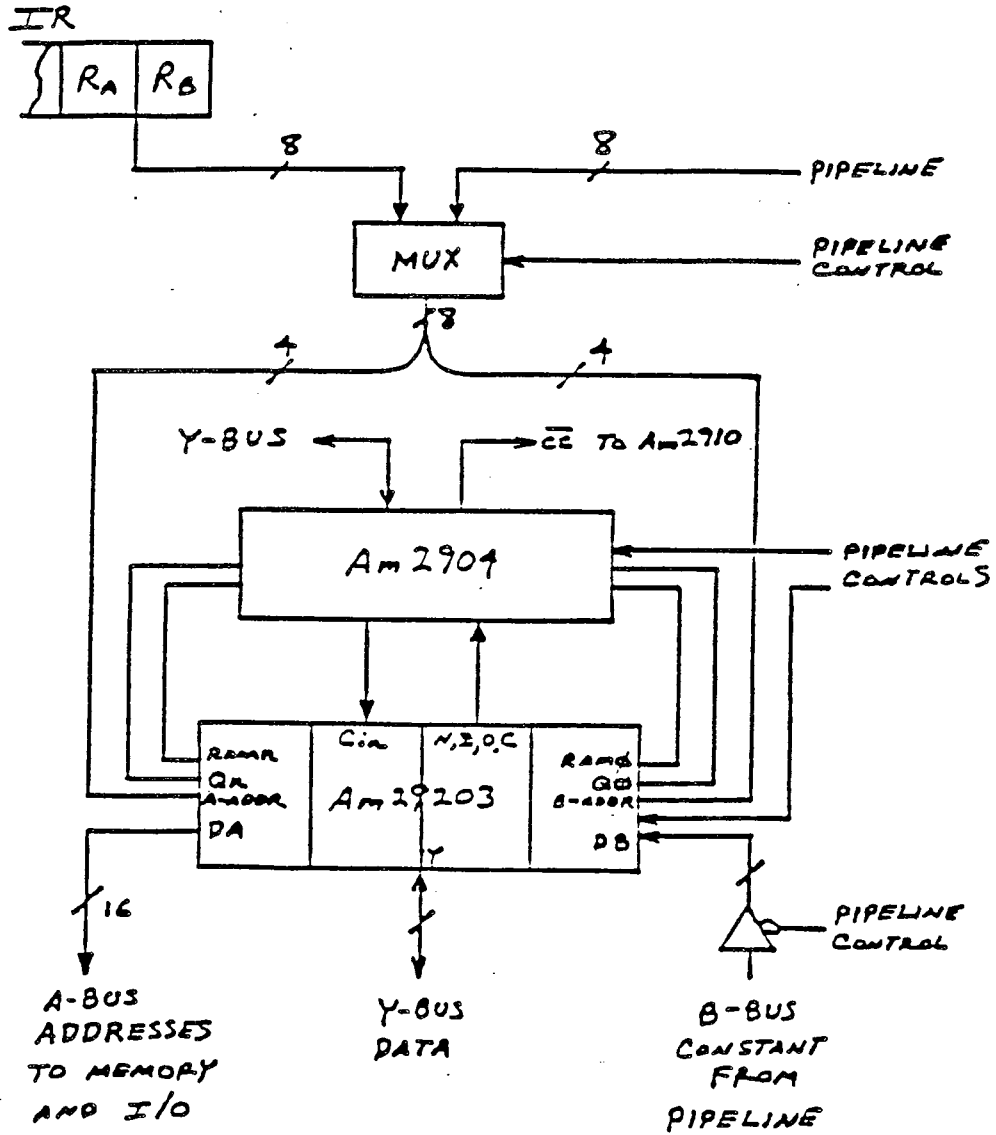

Figure EB-8. Primary-System ALU Architecture
- Four Am29203s connected in ripple-carry architecture. See Figure EB-8.